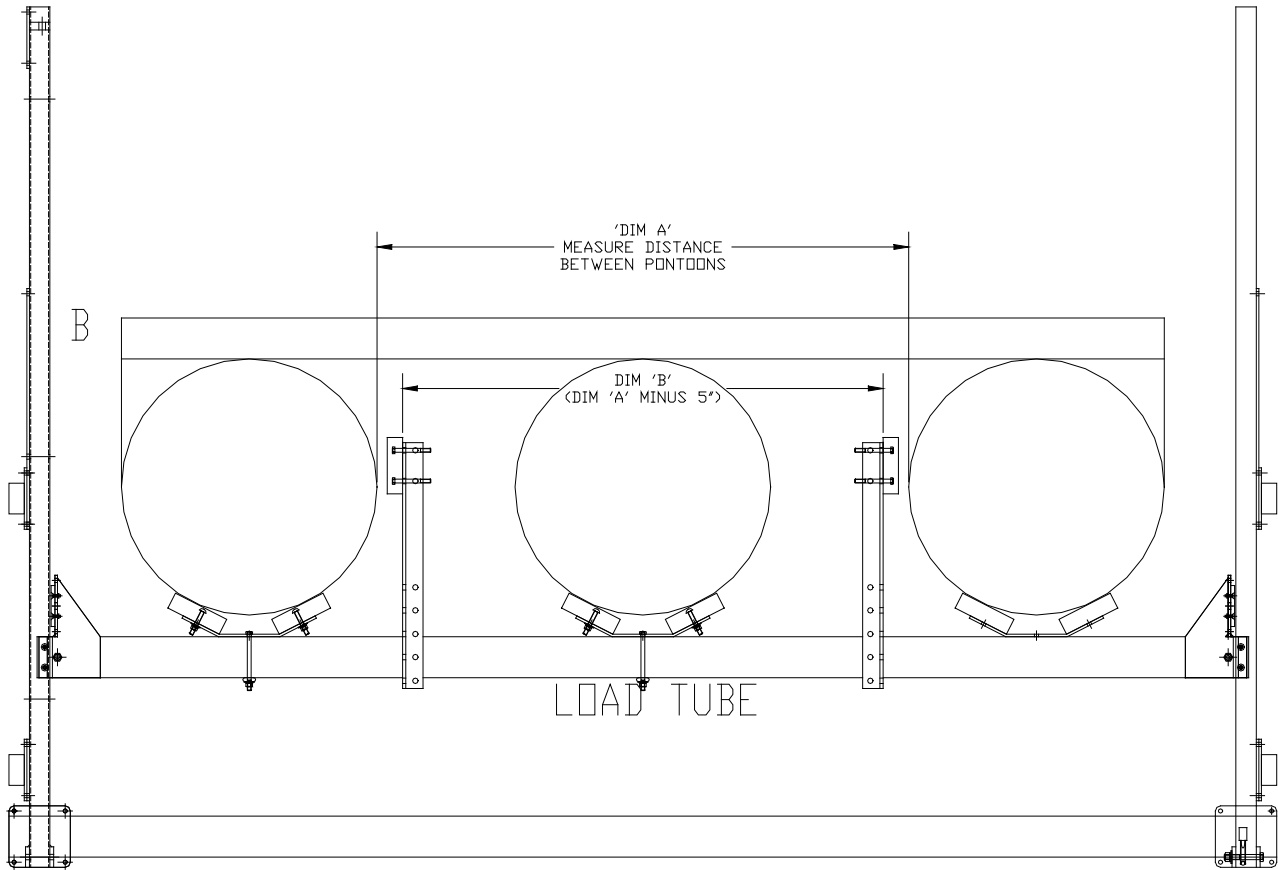

Figure 2-5.
2. Refer to Figure 2-5. Measure the distance between the pontoons to determine dimension 'A'.